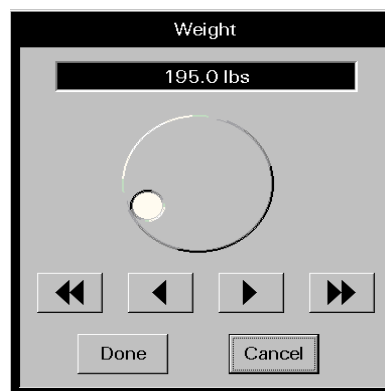
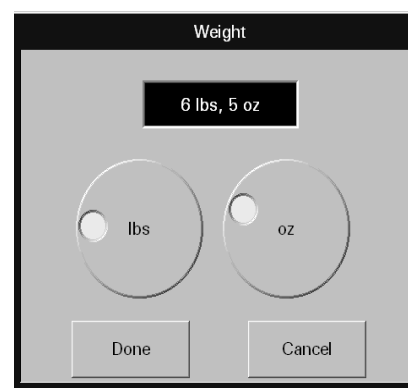

FIGURE 5-5 Weight Dialog Box
FIGURE 5-6 Weight Dialog Box
1. From the Demographics tab, select the Weight field. The Weight dialog box (shown in FIGURE 5-5 and FIGURE 5-6) is displayed.